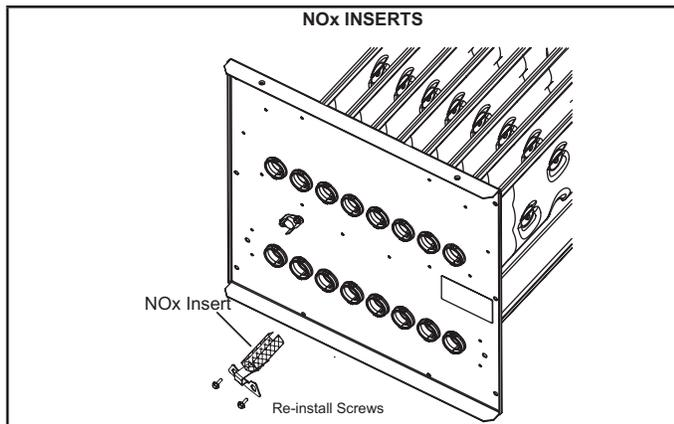
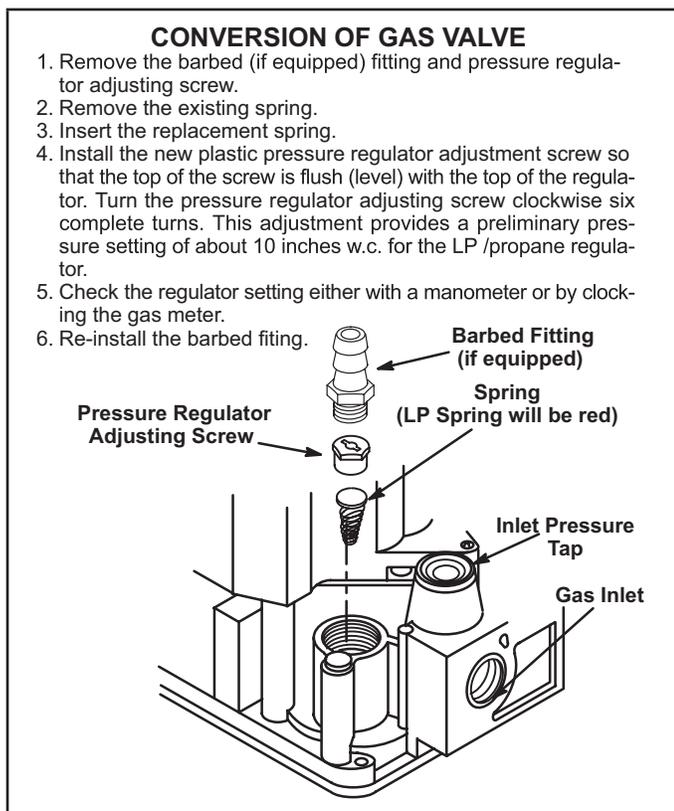

FIGURE 1
FIGURE 7
- 6 - Replace the gas valve regulator spring with the provided regulator spring. See figure 7.
- 7 - ML180(X), EL180(X) and 80AF1(X) NOX units being converted from natural to LP /Propane.
- b - Remove the screws which secure each of the NOx inserts to the clamshell. Remove the NOx inserts and reinstall the screws. See figure 1.